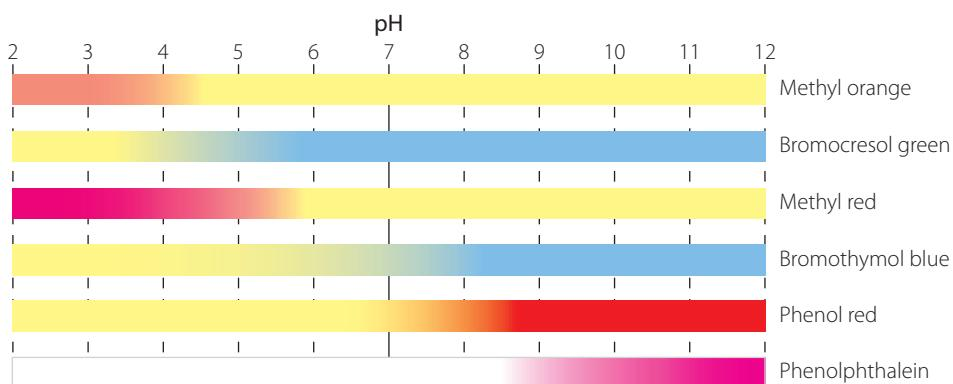

FIGURE 7.6 Colours of some common indicators over ranges of pH
During volumetric analysis, you need to be able to determine when the equivalence point has been reached. The physical sign that the equivalence point has been reached is called the ‘end point’. A simple way of observing the end point for an acid–base reaction is the use of an acid–base indicator. Acid–base indicators are used to visually show when a particular pH is passed. Different indicators change colour at different pH ranges, as shown in Table 7.1 and Figure 7.6. You were introduced to different acid–base indicators in chapters 5 and 6.
- a A student used three indicators to determine the pH of a sample of water from the local river. The results were colourless in phenolphthalein, yellow in methyl orange and blue in bromothymol blue. Use Figure 7.6, to determine whether the sample of river water was acidic, basic or neutral.